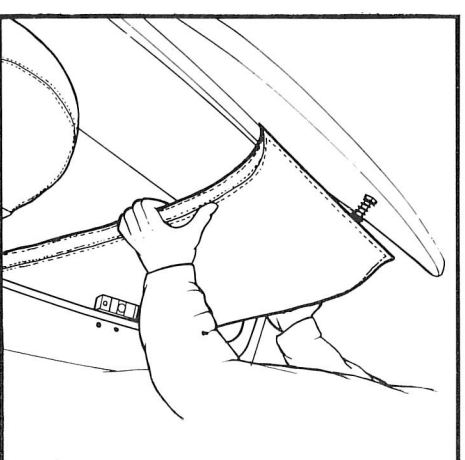

Fig. 21 Roof Panel Storage.
c) Remove the other roof panel. Place both roof panels in their separate protective covers to protect the roof material. Lay both roof panels in the boot beside the spare wheel one on top of the other. See Fig. 21